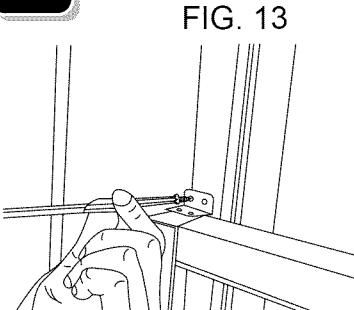

FIG. 13
- 8** To secure lower sash in place, attach right angle sash lock with 1/2" (12.7mm) screw as shown (FIG. 13).